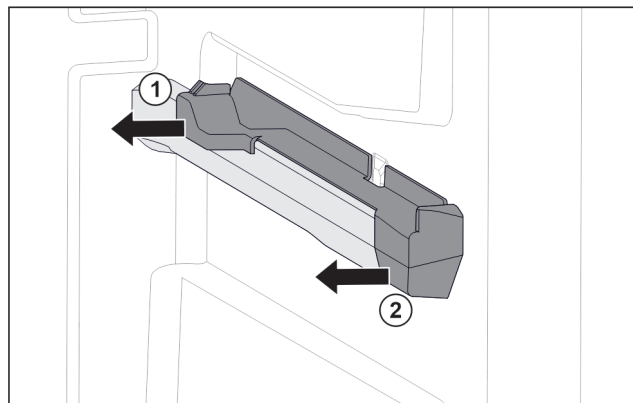

Fig. 93 Attachment on the right moulded rib
- Pull off attachment at the back sideways. Fig. 93 (1)
- Pull off attachment at the front sideways. Fig. 93 (2)